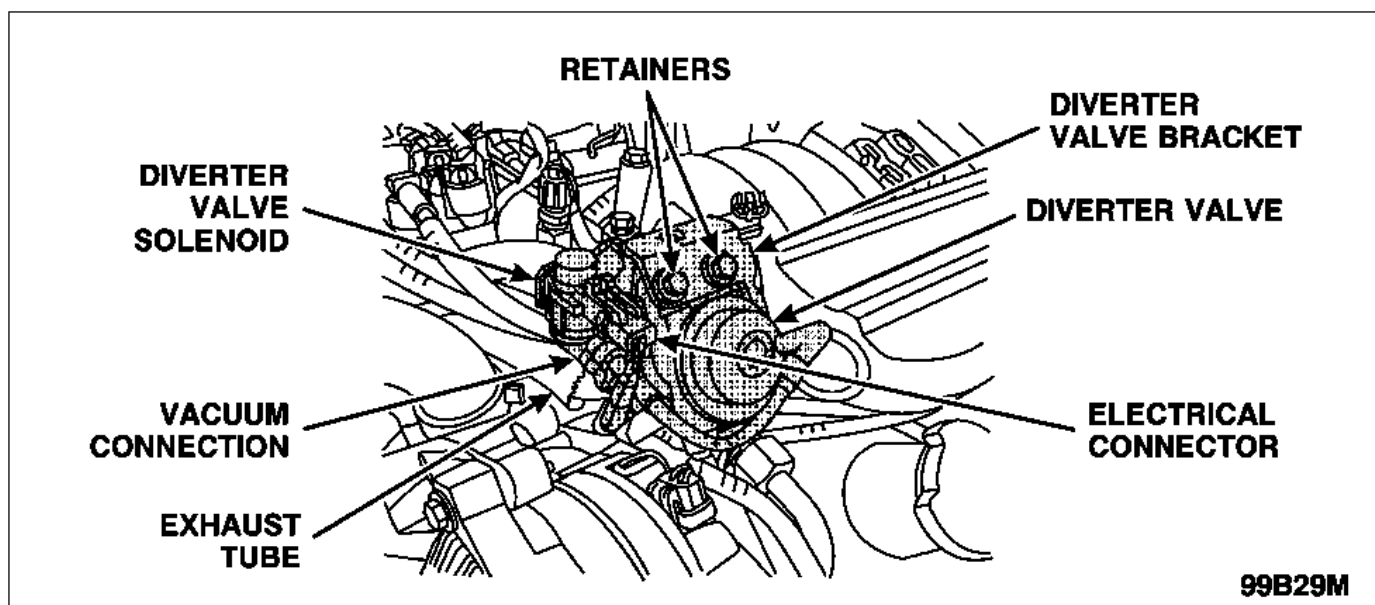

FIGURE 13
- Disconnect the exhaust tube from the air injection diverter valve. See Figure 13.
- Disconnect the electrical and the vacuum connections from the air injection diverter valve solenoid. See Figure 13.
- Remove the air injection diverter valve retainers, then position the valve/supply hose away from the work area. See Figure 13.
- Remove the air injection diverter valve bracket from the engine. See Figure 13.